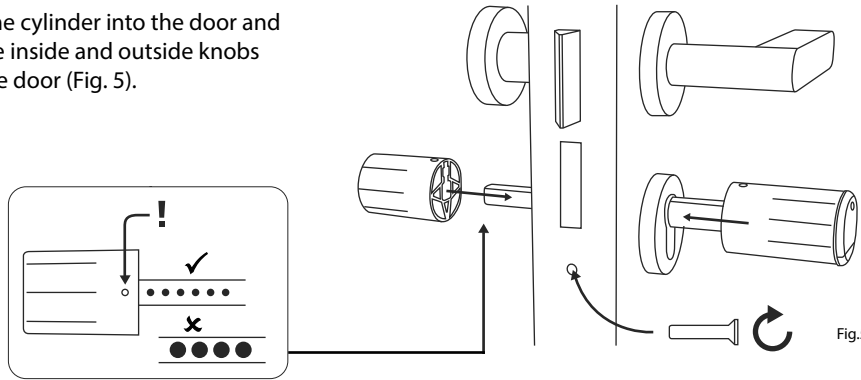

Fig. 5
- ⑤ Screw the cylinder into the door and push the inside and outside knobs up to the door (Fig. 5).